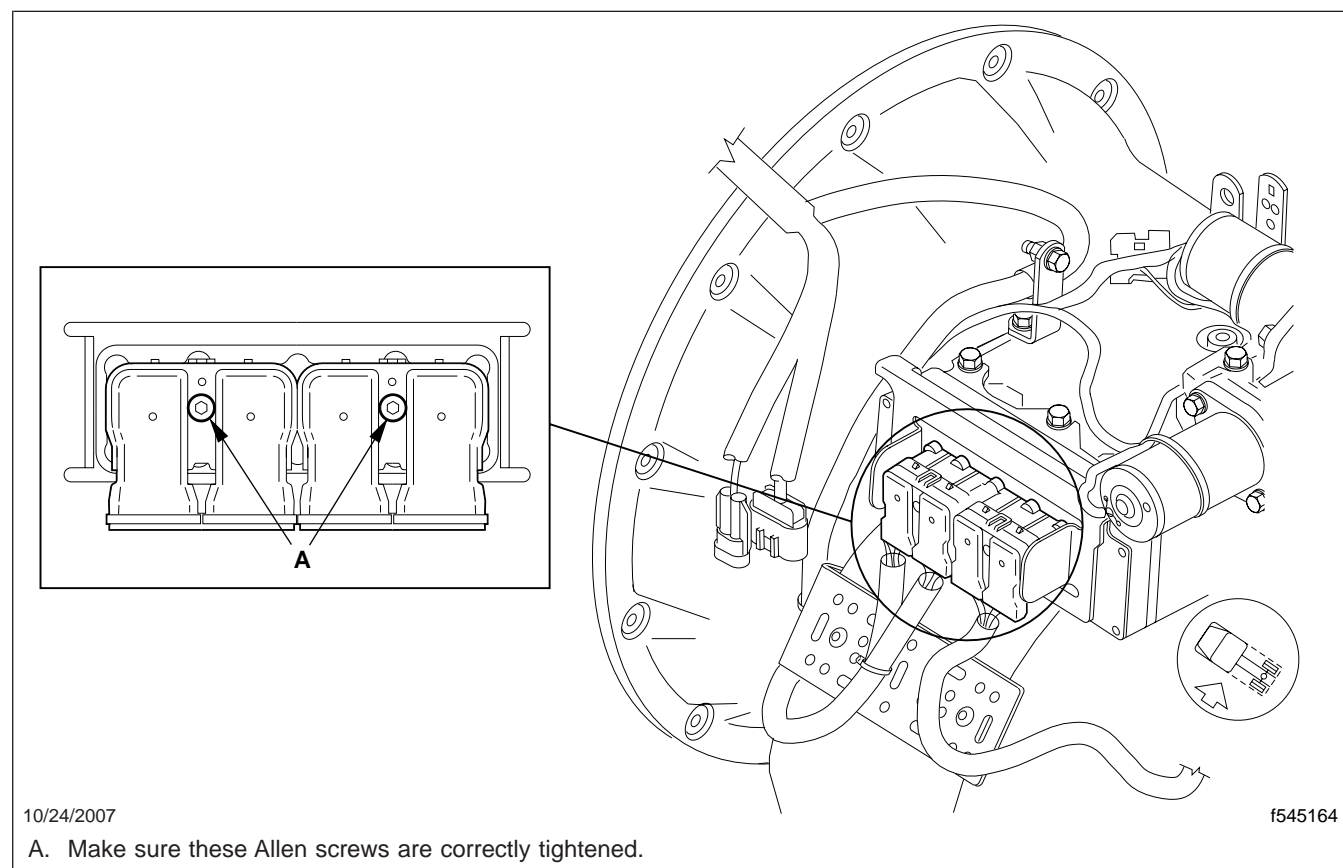

Fig. 1, Transmission Electrical Connections
3. Using a torque wrench with a 5/32 inch (4 mm) Allen wrench attached, check the tightness of the two Allen screws that connect the transmission harness connectors to the transmission ECU. See Fig. 1.